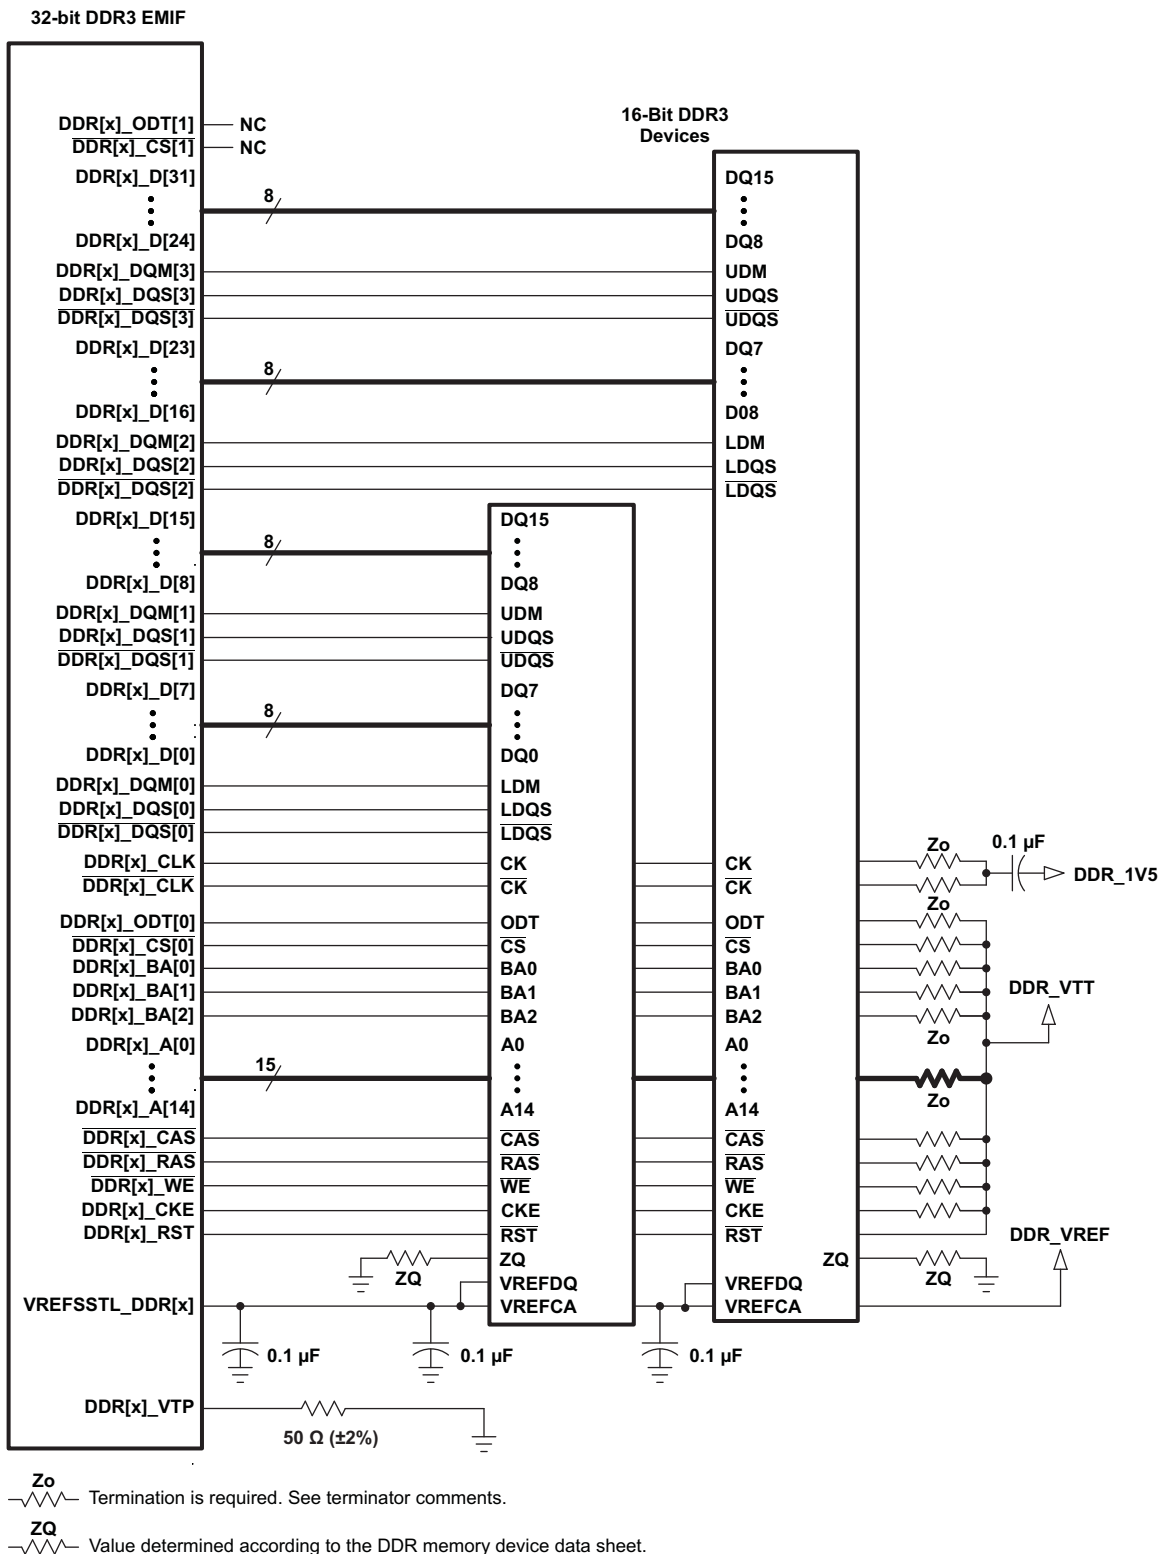

Figure 8-54. 32-Bit, One-Bank DDR3 Interface Schematic Using Two 16-Bit DDR3 Devices
The DDR3 interface schematic varies, depending upon the width of the DDR3 devices used and the width of the bus used (16 or 32 bits). General connectivity is straightforward and very similar. 16-bit DDR devices look like two 8-bit devices. Figure 8-54 and Figure 8-55 show the schematic connections for 32-bit interfaces using x16 devices.
Note that the 16-bit wide interface schematic is practically identical to the 32-bit interface (see Figure 8-54 and Figure 8-55); only the high-word DDR memories are removed and the unused DQS inputs are tied off. The processor `DDR[x]_DQS[2]` and `DDR[x]_DQS[3]` pins should be pulled to the DDR supply via 1-k Ω resistors. Similarly, the `DDR[x]_DQS[2]` and `DDR[x]_DQS[3]` pins should be pulled to ground via 1-k Ω resistors.
(1) DDR3 speed grade depends on desired clock rate. Data rate is 2x the clock rate. For DDR3-800, the clock rate is 400 MHz.
(2) DDR3 devices with speed grades up to DDR3-1600 are supported; however, max clock rate will still be limited to 400 MHz as stated in *Switching Characteristics Over Recommended Operating Conditions for DDR3 Memory Controller*.
(3) For valid DDR3 device configurations and device counts, see Section 8.13.4.2.4, Figure 8-54, and Figure 8-55.